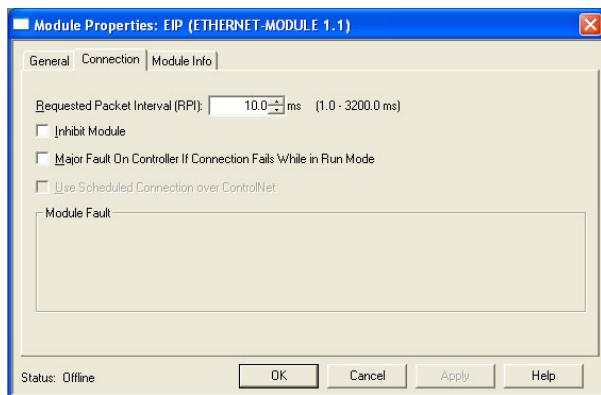

Figure 80: Interface Card Module Properties Connection Tab
- 5) You should now see the new module (named “ETHERNET-MODULE Fuji_Inverter”) in the 1756-ENBT/A branch under the I/O Configuration in the controller organizer view. Right click on this new module, choose “Properties”, and select the Connection tab. Refer to Figure 80.